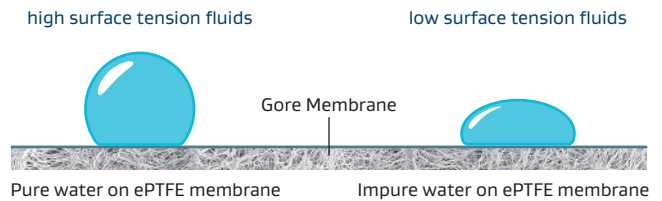

Figure 2: Wettability under different surface tension
- Low surface tension fluids can spontaneously wet ePTFE resulting in failure (Figure 2).